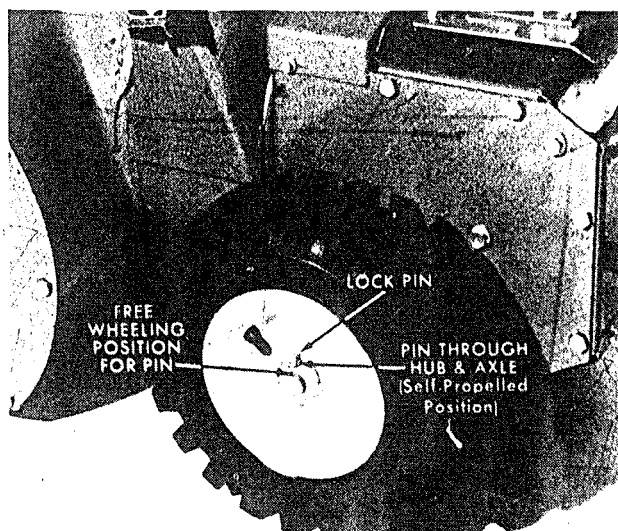

Figure 12
9. The snowthrowers are shipped with the wheel locking pin through the axles only, and not through the wheel hub. In this position, the wheels are free to turn. To engage the wheels for self-propelled use, install the locking pin through the wheel hub and the inner pin hole in the axle. See Fig. 12.